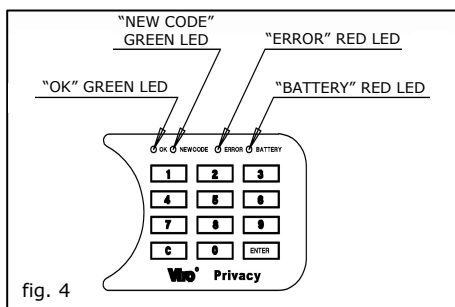

fig. 4
- To check whether the safe works press any key: the "OK" green LED must blink slightly (see fig. 4).
ATTENTION: Use only AA LR6 type 1,5V alkaline batteries. All 4 batteries of the same safe must be replaced at once. Do not use together new and old batteries or batteries of a different type and quality. **When the batteries are almost empty at "ENTER" press there will be a blink of the "BATTERY" red LED (see fig. 4): replace then the batteries.**
- With door opened** (retracted lockbolts) press "C" key on the keypad until "NEW CODE" green LED lights up (see fig. 4).